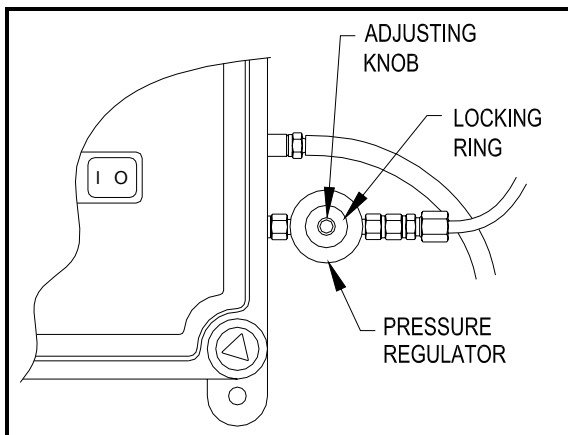

Figure 4. Location of Pressure Regulator
3. Locate the Pressure Regulator according to Figure 4.